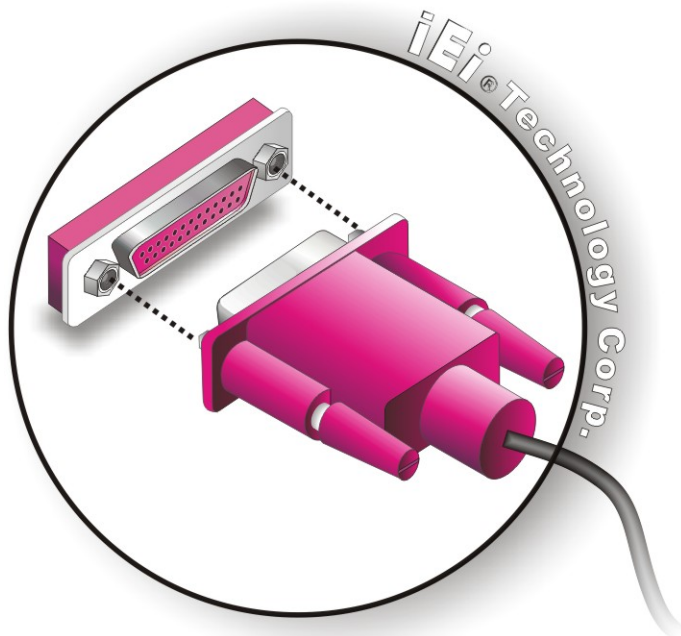

Figure 5-17: Parallel Device Connector
Step 2: Insert the DB-25 connector. Insert the DB-25 connector of a parallel device into the DB-25 connector on the external peripheral interface. See **Figure 5-17**.